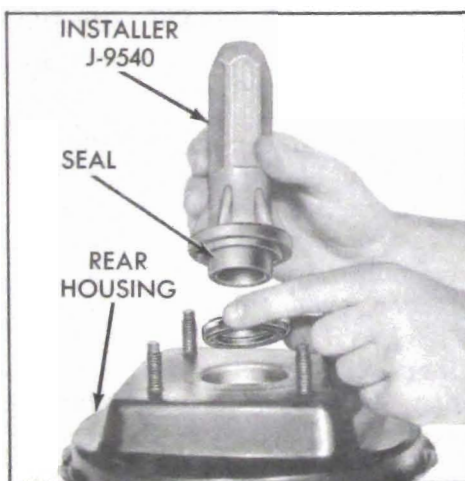

Figure 9-45—Installation of Rear Bearing Seal
2. If rear bearing seal is to be replaced, use Installer J-9540 to press bearing seal in rear shell with plastic side up. See Figure 9-45.